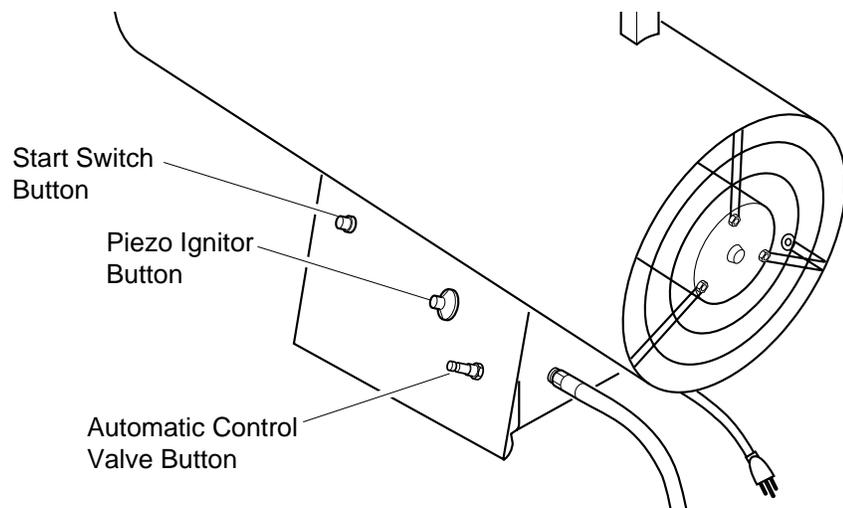

Figure 5 - Automatic Control Valve Button, Piezo Ignitor Button, and Start Switch Button
6. Push in and hold automatic control valve button (see Figure 5). Push piezo ignitor button (see Figure 5). You may need to push piezo ignitor button 3-8 times until the burner lights. When burner lights, keep automatic control valve button pushed in. Release button after 30 seconds.